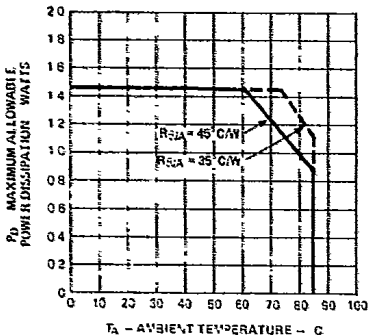

Figure 2. Maximum Allowable Power Dissipation vs. Temperature
- 2 The device should be derated linearly above 60°C at 22.2 mW/°C. This derating is based on a device mounted in a socket having a thermal resistance from case to ambient at 25°C: W per device. See Figure 2 for power deratings based on a lower thermal resistance.
The HDSP-2490/-2491/-2492/-2493 are available in standard ceramic dual-in-line packages. They are designed for plugging into sockets or soldering into PC boards. The packages may be horizontally or vertically stacked for character arrays of any desired size. The HDSP-2490/-2491/-2492/-2493 utilize a high output current IC to provide excellent readability in bright ambient lighting. Full power operation (V_{CC} = 5.25V, V_B = 2.4V, V_{COL} = 3.5V with worst case thermal resistance from IC junction to ambient of 45°C/watt/device is possible up to ambient temperature of 60°C. For operation above 60°C, the maximum device dissipation should be derated linearly at 22.2 mW/°C see Figure 2. With an improved thermal design, operation at higher ambient temperatures without derating is possible. Please refer to Application Note 1016 for further information.